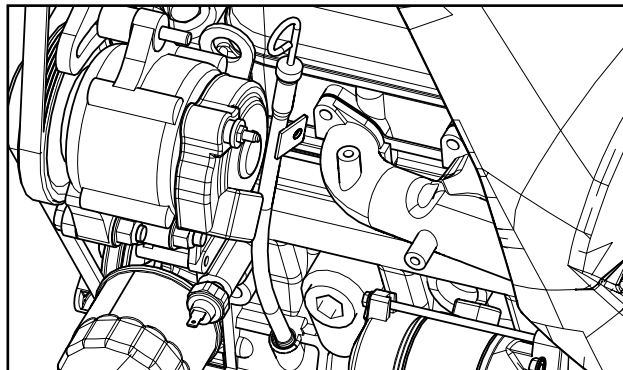

Fig. 2.5 (Dipstick Position)
2.5 Install the previously modified dipstick tube back into the engine block and position it as shown in Fig. 2.5.